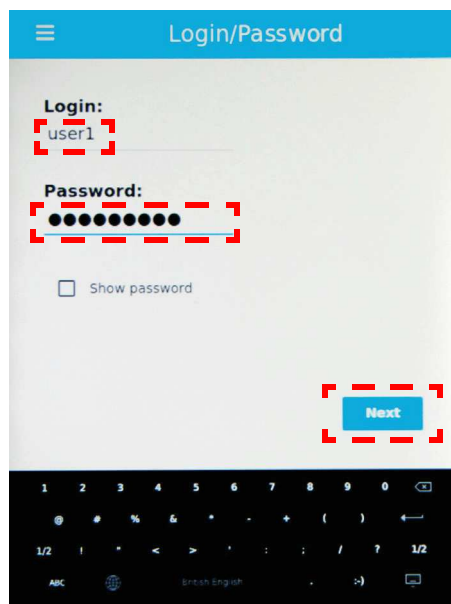

Figure 4-11 Validator Initialization (Workshop) 6
Step 13 Set login and password and press the <Next> button (see **Figure 4-11**).